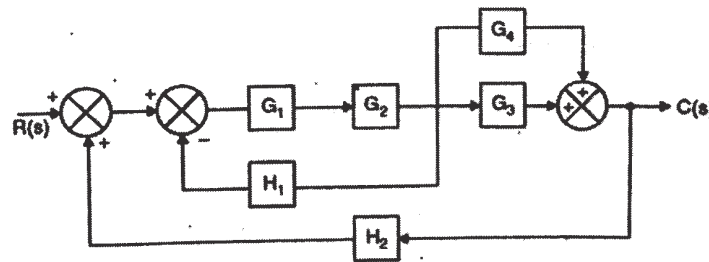

Fig. 2
- c) Carry out block diagram reduction for the system shown in figure 2. [8]